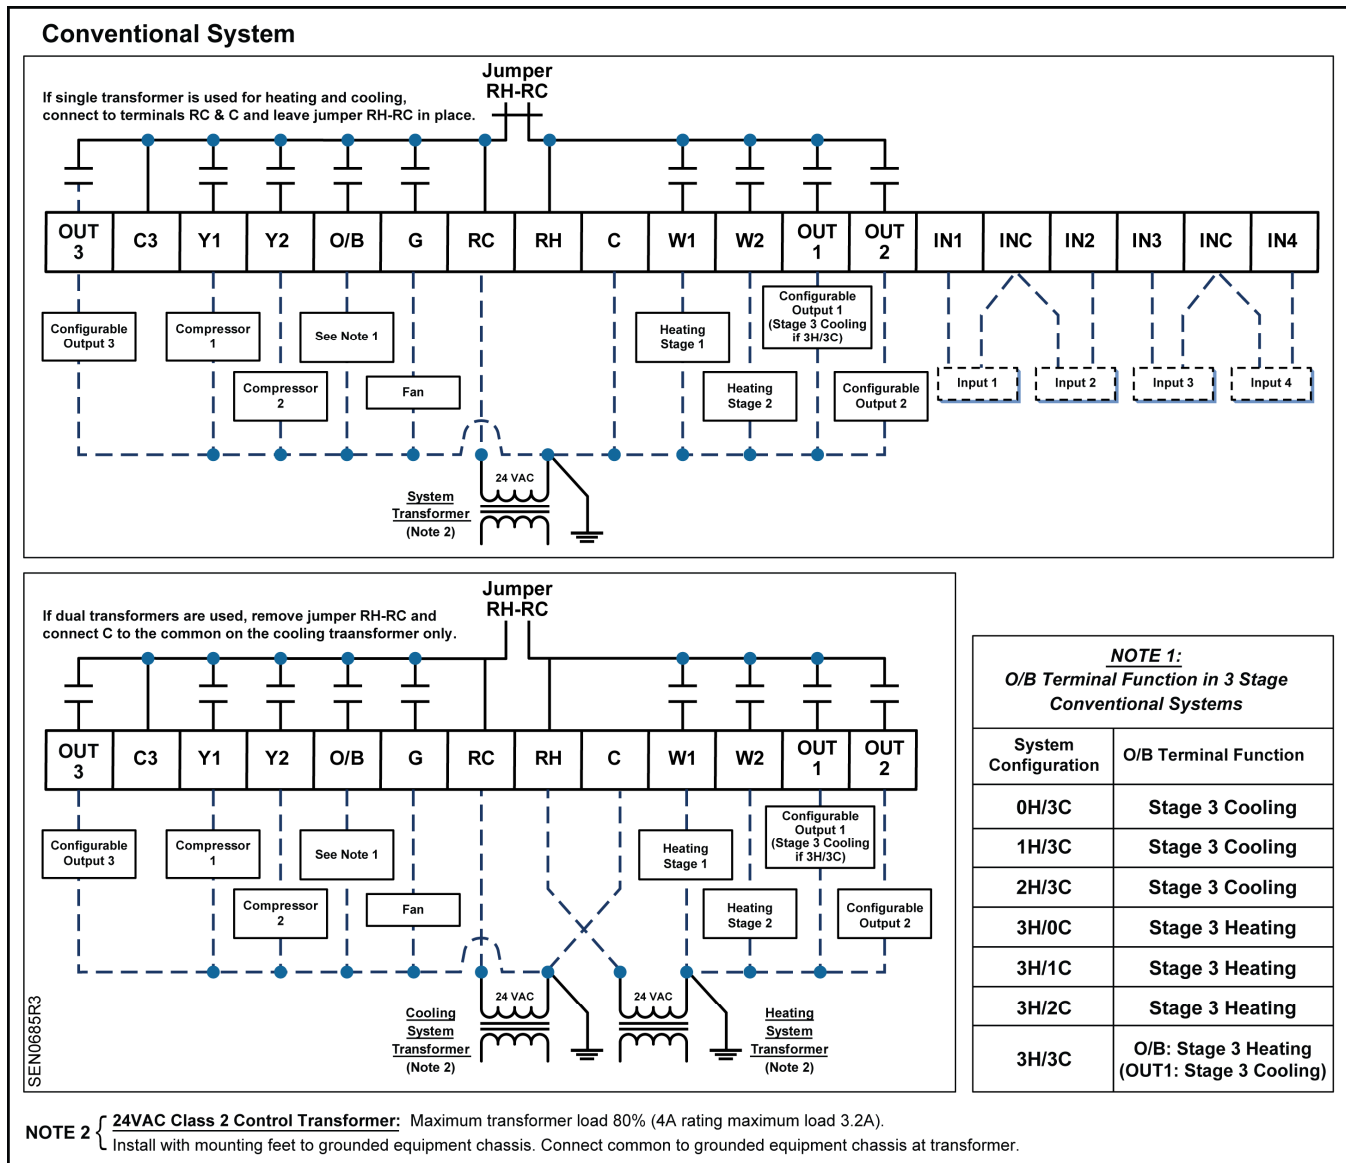
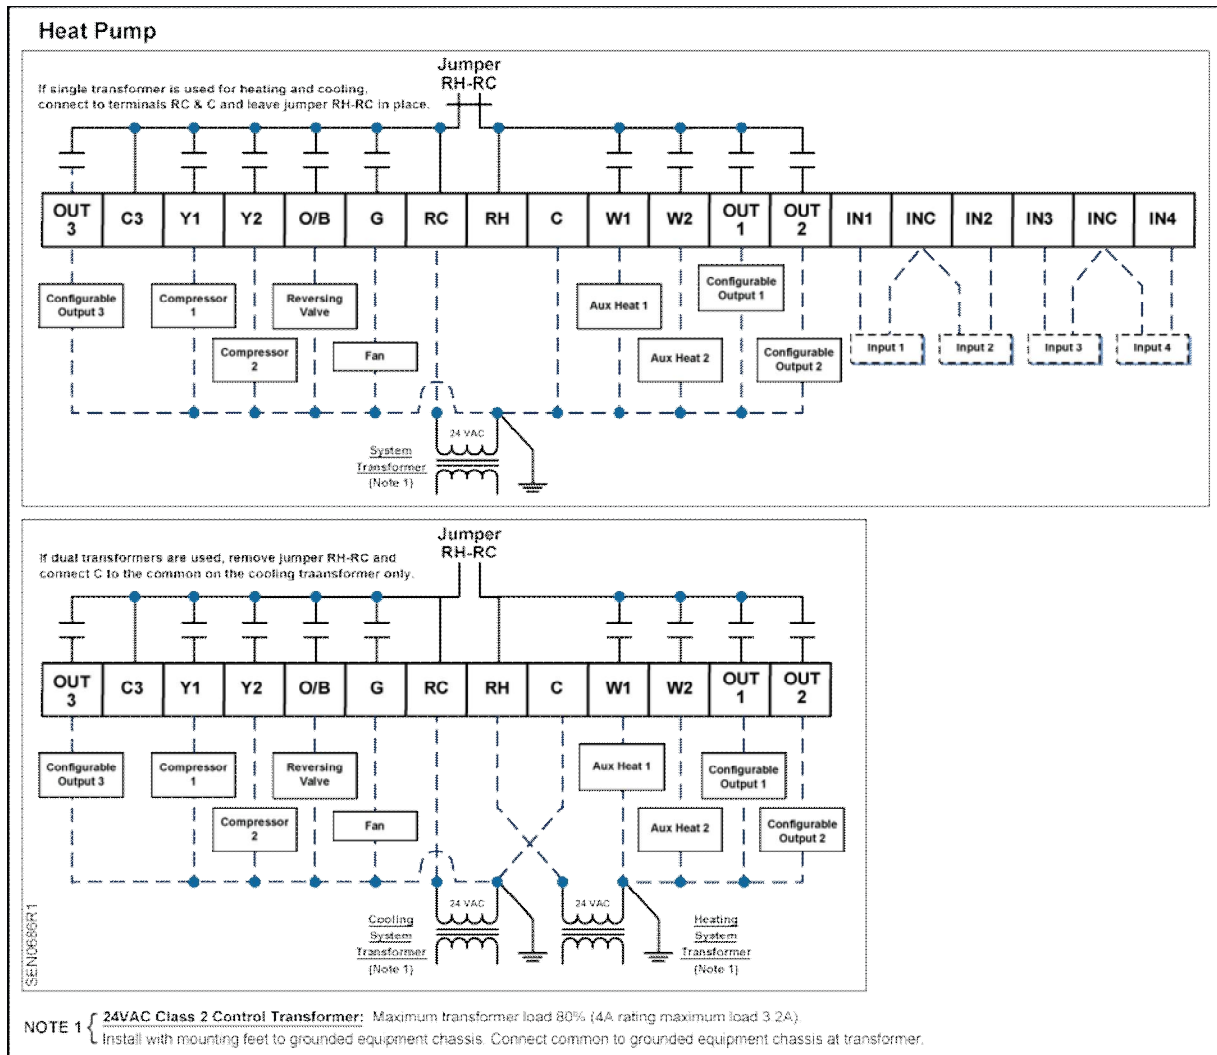

Figure 4. Wiring Schematic, Conventional System.
Figure 5. Wiring Schematic, Heat Pump.
- 3. Attach the existing wires to the appropriate terminals on the thermostat base plate. See *Wiring Diagrams*, Figure 4 and Figure 5.